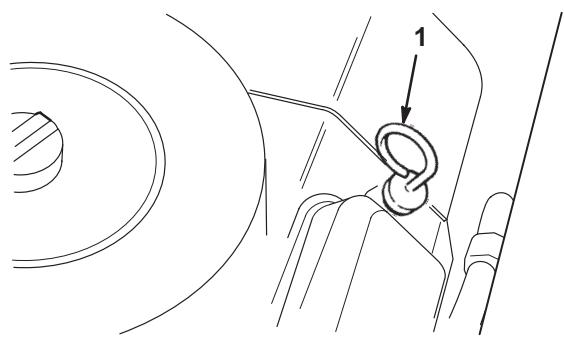

Figure 6
- Pull out the dipstick (Fig. 6) and wipe it with a clean rag. Insert the dipstick into the tube and make sure that it is seated fully. Remove the dipstick from the tube and check the oil level. If the oil level is low, remove the filler cap from the valve cover (next to the dipstick) and add enough oil to raise the level to the FULL mark on the dipstick.